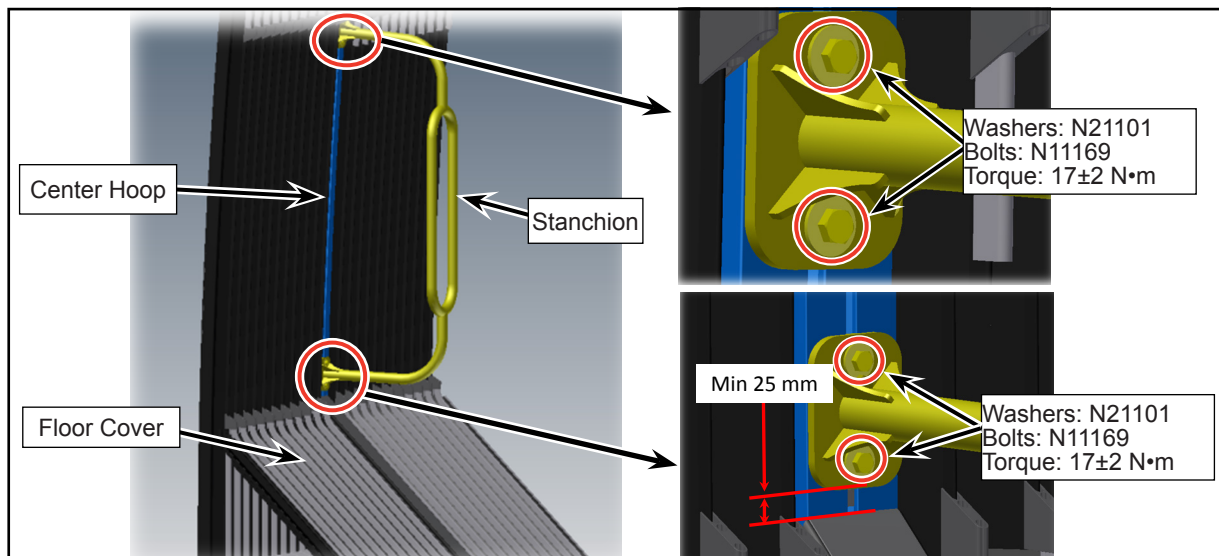

Figure 6 - Installation of New Stanchion
- 1.7. Install the new stanchions on to the tenon block present inside the center hoop profile with the hardware provided (see Figure 6).
- 1.8. Ensure that enough gap (Min. 25 mm) is left between the lower edge of the stanchion and the floor cover profile as shown (see Figure 6).
- 1.9. Apply blue thread locker and torque the bolts as specified (see Figure 6).